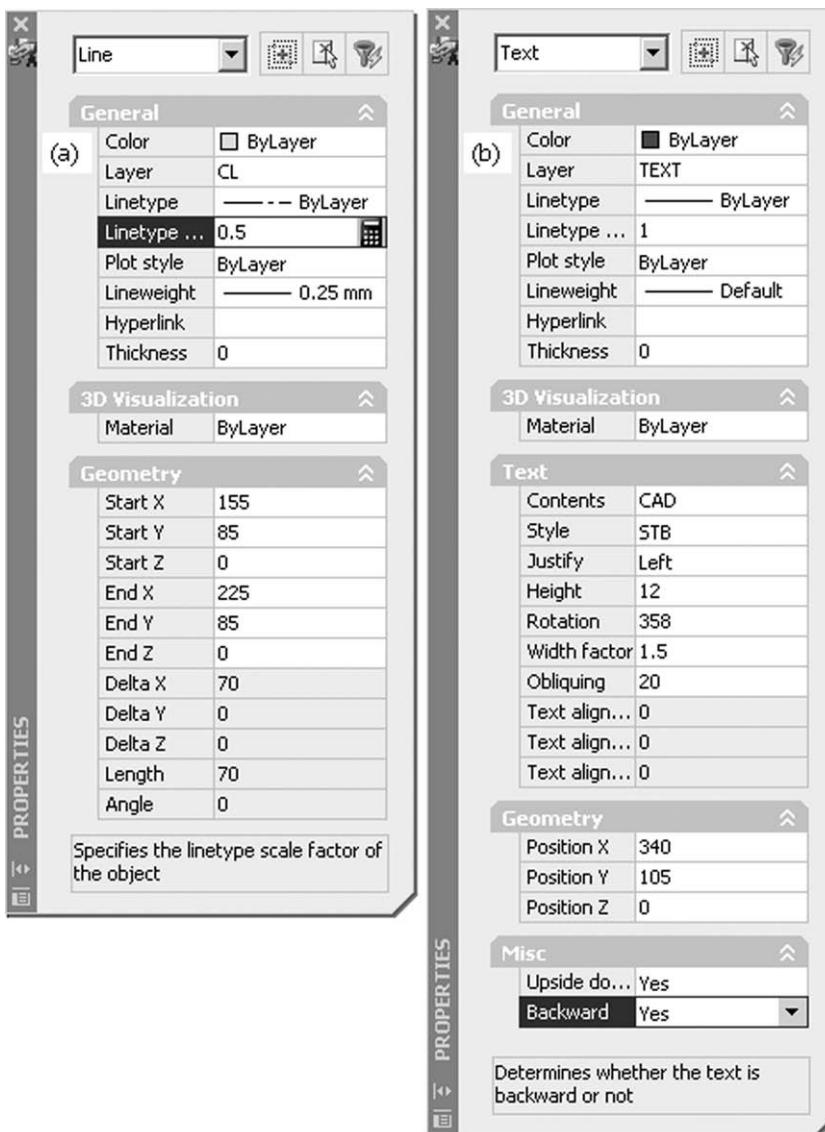

Figure 23.3 The Properties palette for changing (a) a selected line and (b) a selected item of text.
- c) alter linetype scale value to 0.5 – Figure 23.3(a)
and palette as Figure 23.3(b)